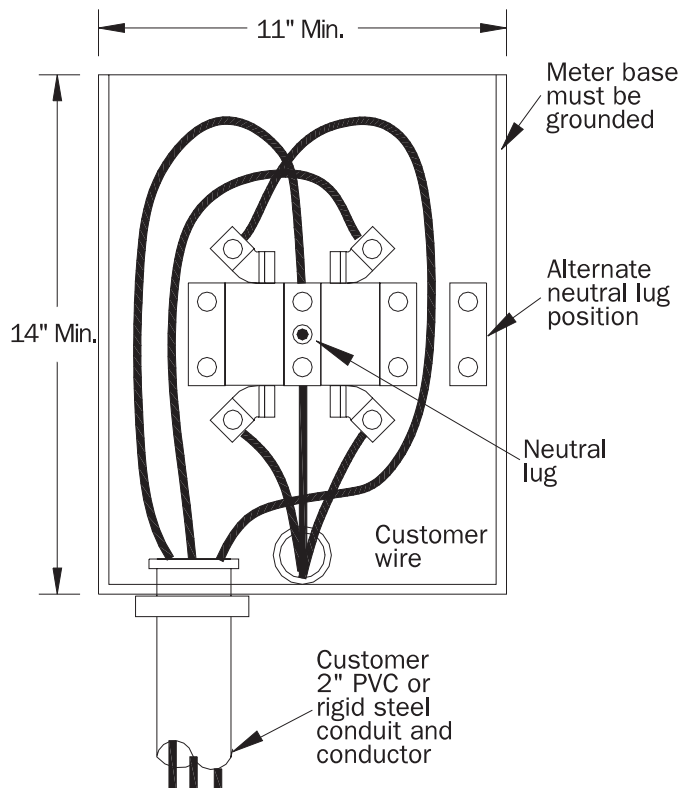

Figure 24.
- Be at least 4-1/4 inches deep, 11 inches wide, and 14 inches high (see Figures 24 and 25).